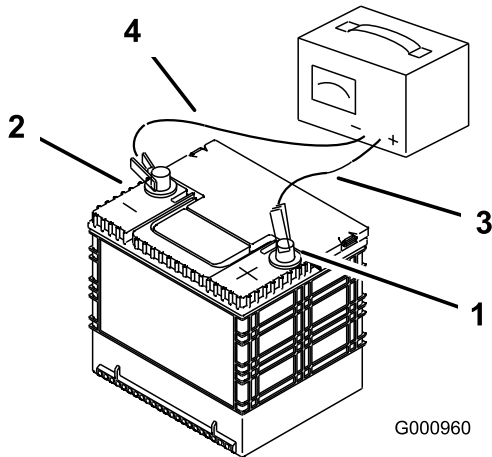

Figure 69
3. When the battery is fully charged, unplug the charger from the electrical outlet, then disconnect the charger leads from the battery posts (Figure 69).